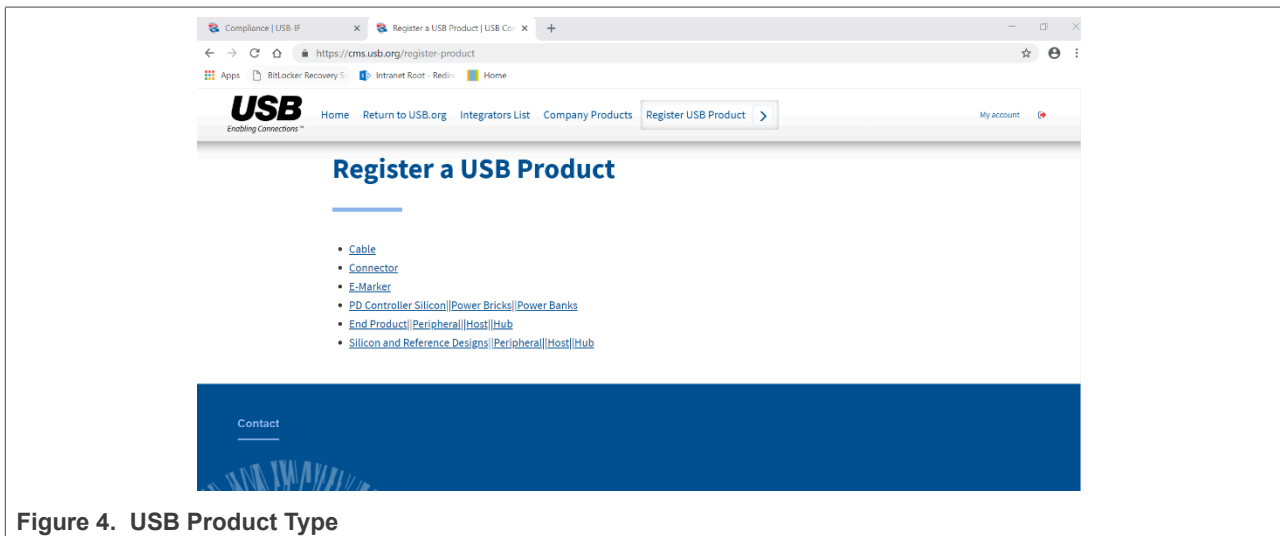

Figure 4. USB Product Type
2. Click **My Account** and then click **Add a Product** to enter the Product Register page, select a product type for your product, as shown in Figure 4. If you do not know what kind of Product Type you should choose, consult your Test Lab;